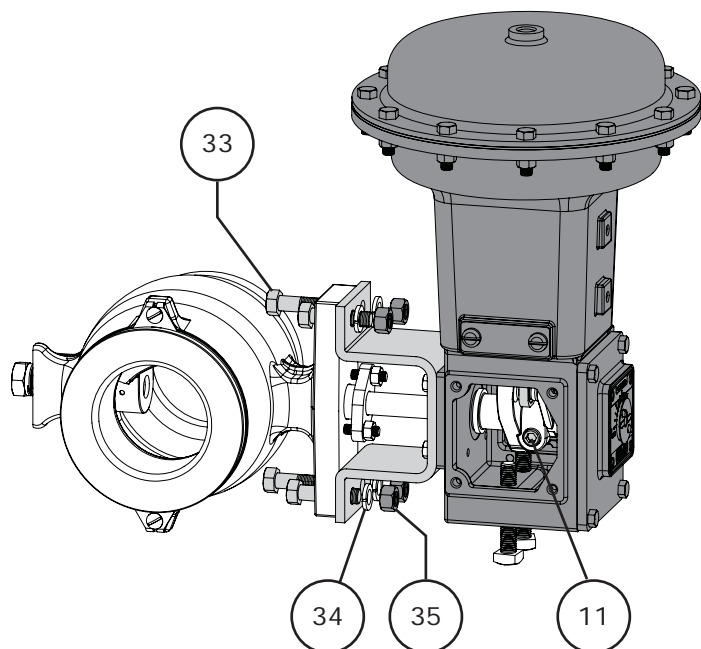

Figure 4 Actuator/Valve Body Bolting
- 9 Once the actuator is installed on the valve shaft in the proper orientation, secure the actuator in place using the mounting bolts (Key 33), lockwashers (Key 34), and hex nuts (Key 35). Refer to Figure 4, and Table 3 for torque values.
- 1 If the actuator is mounted to a valve, remove the screws (Key 27) and cover plate (Key 26). With a 5/16" socket bit, loosen the lever cap screw (Key 11) holding the valve shaft (Key V) in the lever (Key 10). Remove the actuator from the valve by removing the mounting bolts (Key 33), hex nuts (Key 35), and washers (Key 34). Refer to Figure 4.